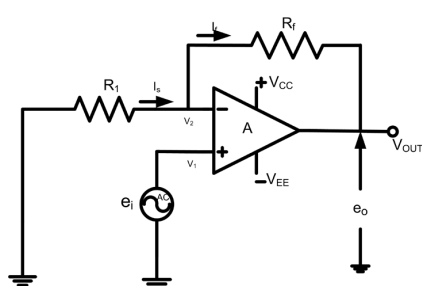

Fig. P23.2 Non Inverting Amplifier
4. Connect  $R_1$  and  $R_f$  as shown in Fig. P23.2.